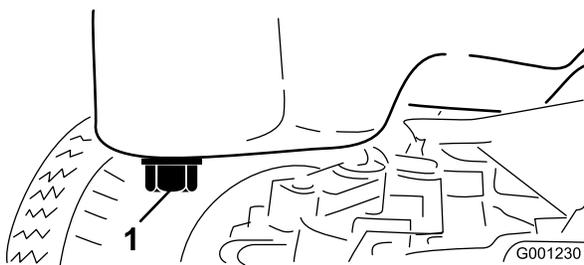

Figure 49
3. Set a drain pan under the oil pan and in line with the drain plug (Figure 49).